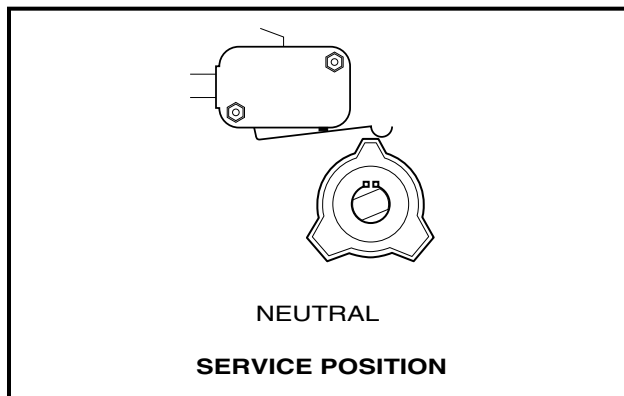

Figure 3-2 Neutral Lockout – Service Position for Pedal-Start Vehicles
- 3.1.3. Place the neutral lockout cam in the SERVICE position (**Figure 3-2, Page 3-3**).
- 6.1.1. Place the neutral lockout cam to the SERVICE position (**Figure 3-2, Page 3-3**).